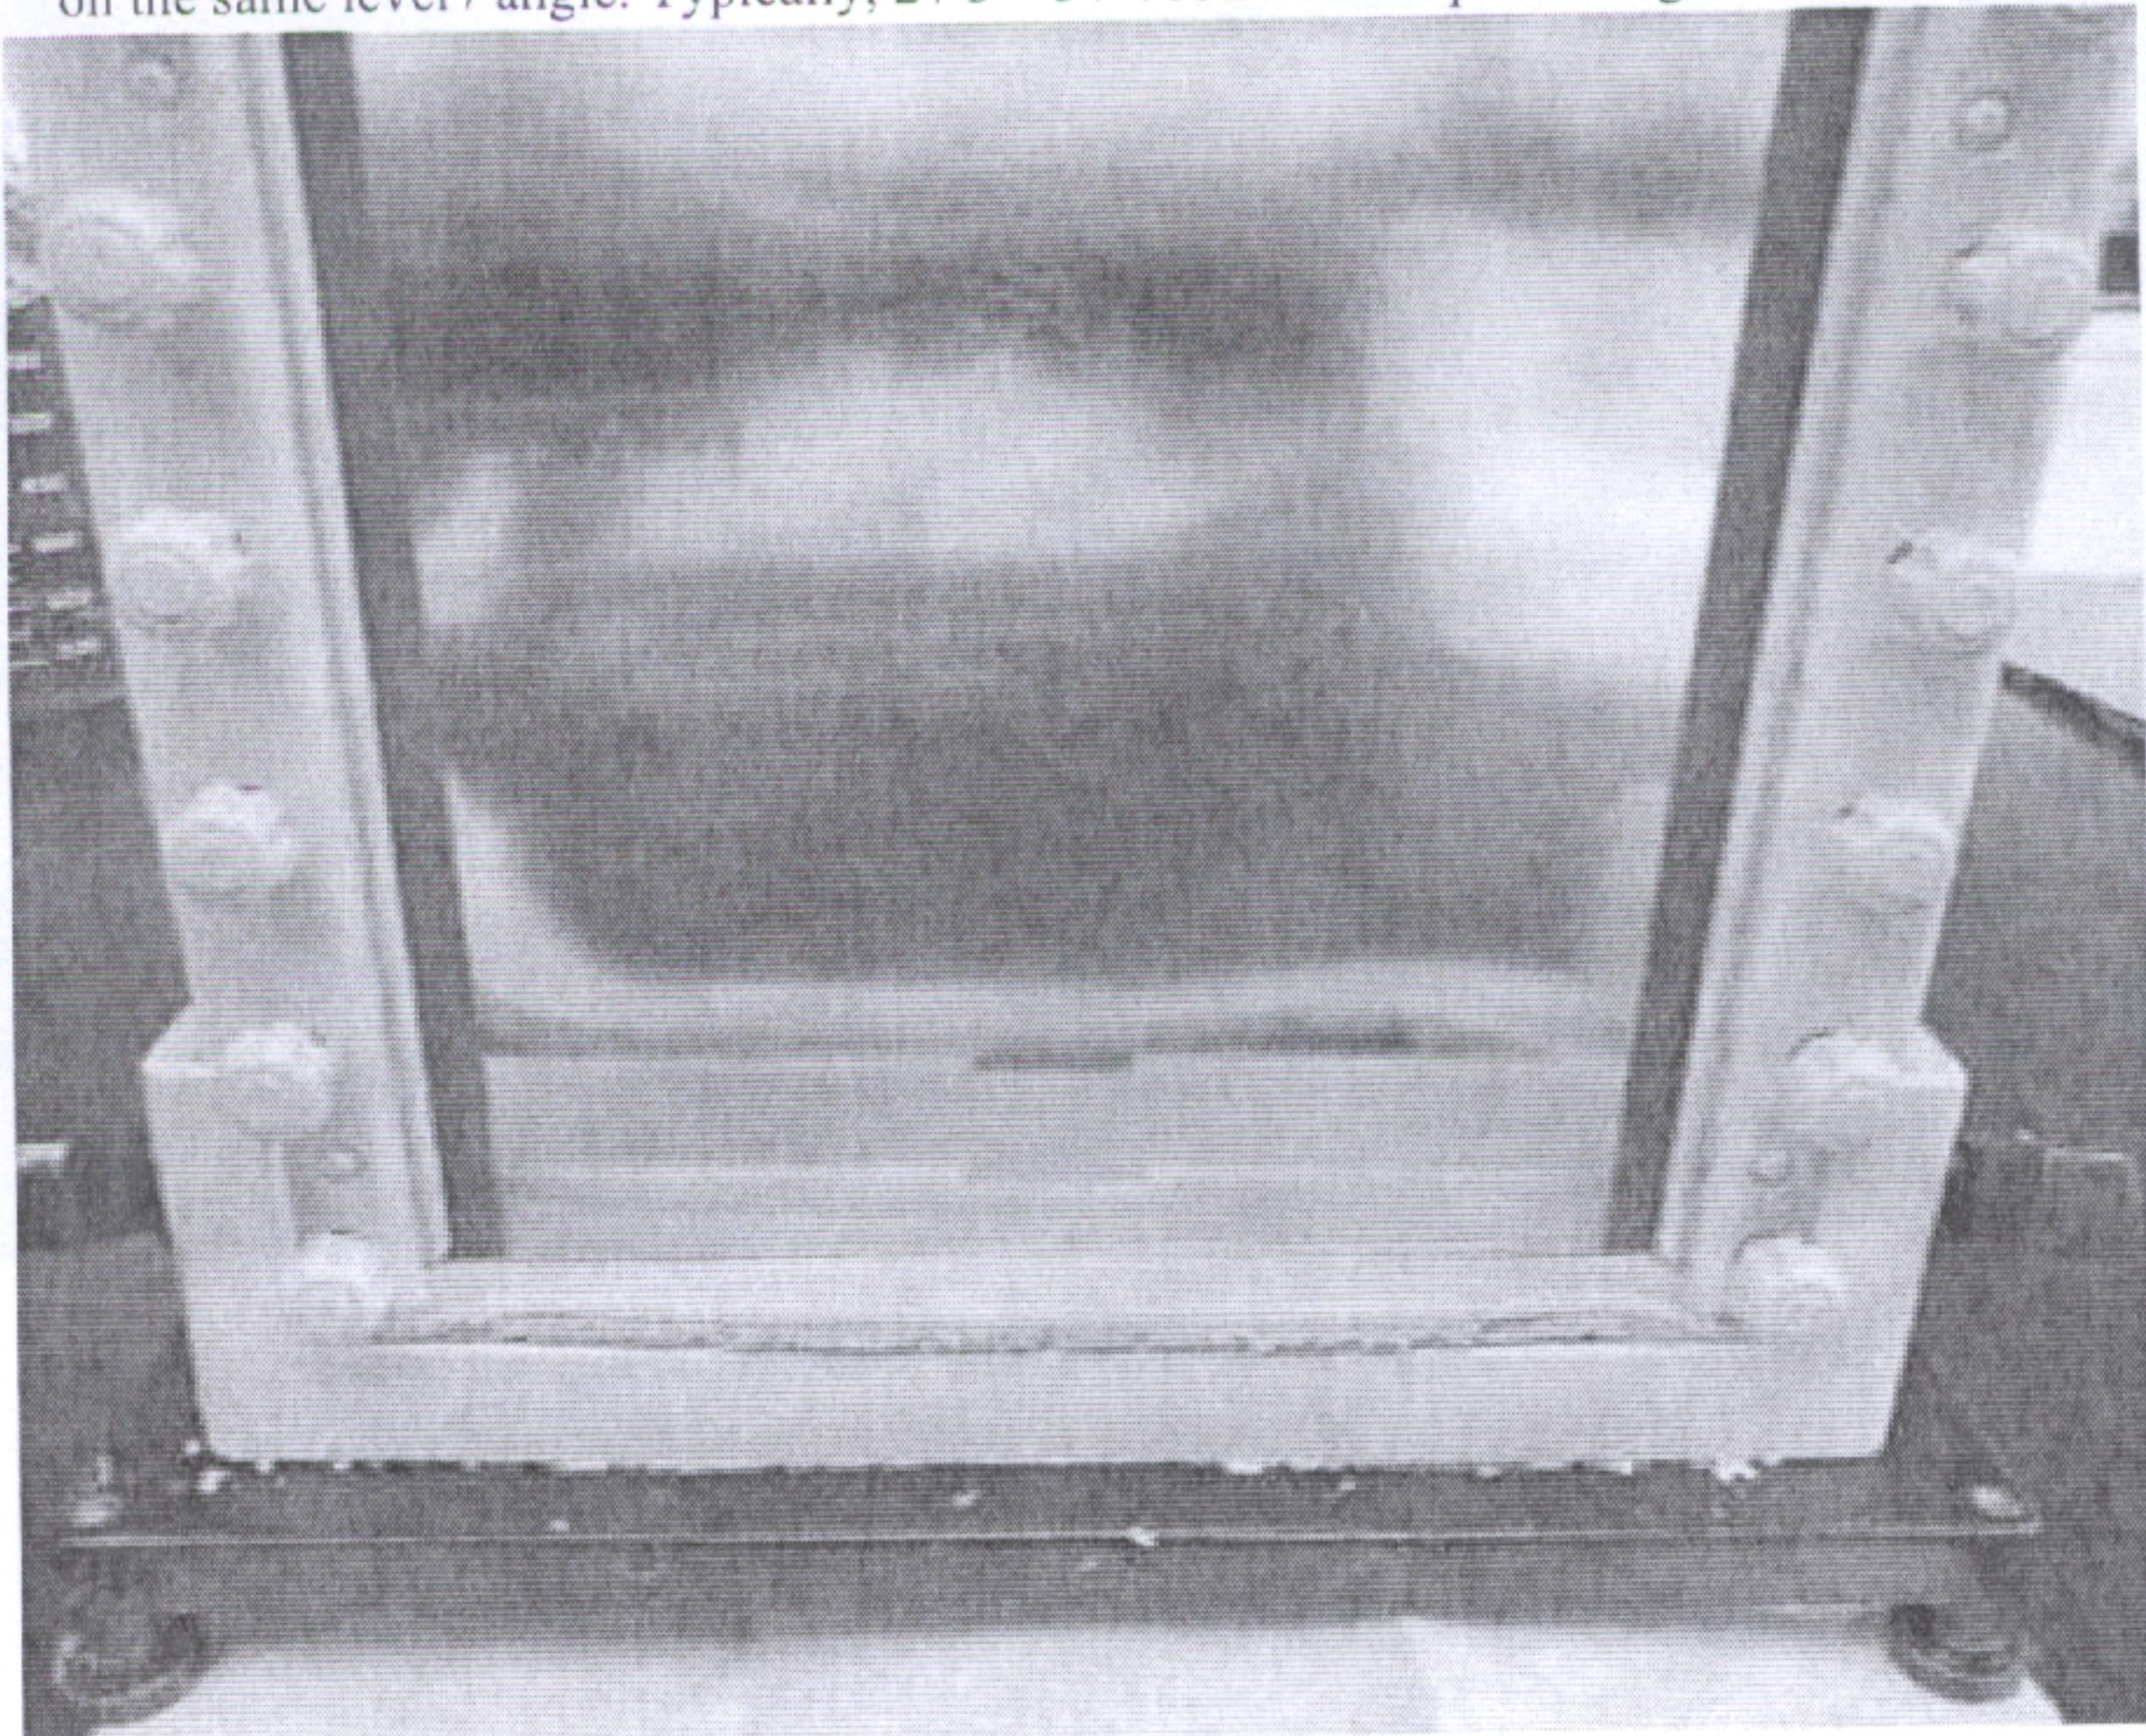

Figure 5. Gel secured in Holder with Cams.
- 3.6. Grease the lower corners. You are specifically trying to seal between the spacer and plate in case there is a small gap. You do not need a lot of grease, just a thumb-pad-full. Slot the greased bottom side into the holder and add 2 cams into the holes, on the outside of the holder, starting in the “down” position, then rotating up to tighten. You may need to apply a slight downward pressure onto the plate to fit the cam through all the way. Rotate the cams to tighten, making sure they’re on the same level / angle. Typically, $2/3 - 3/4$ rotation to up is enough to seal (Figure 5).